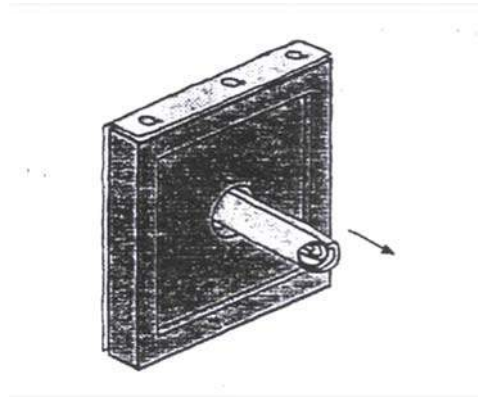

Figure 6
- Now stick this cloth roll up to the throat of the cloth through the hole in the filter plate (Fig. 6).